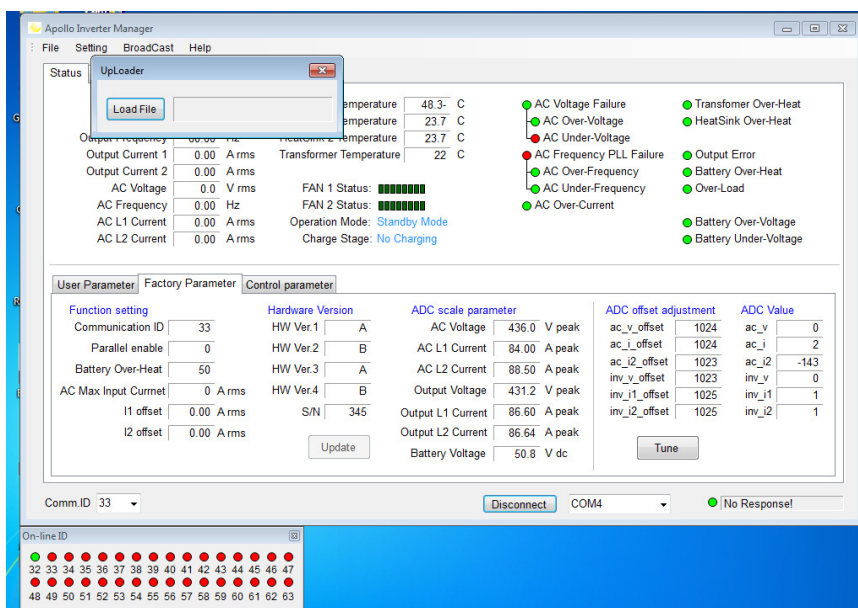
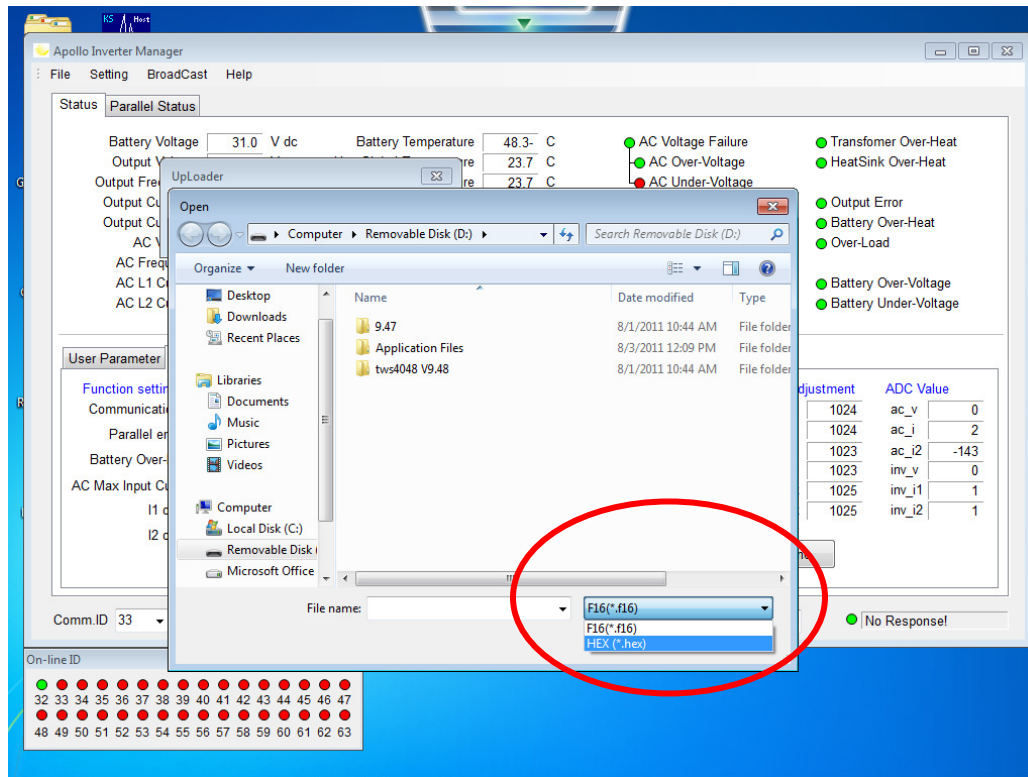

Figure 4
Figure 5
**Step 3** - The “Load File” box will appear as shown in Figure 4. Mouse click on the Load File button. A file select Dialog box will open as shown in Figure 5.